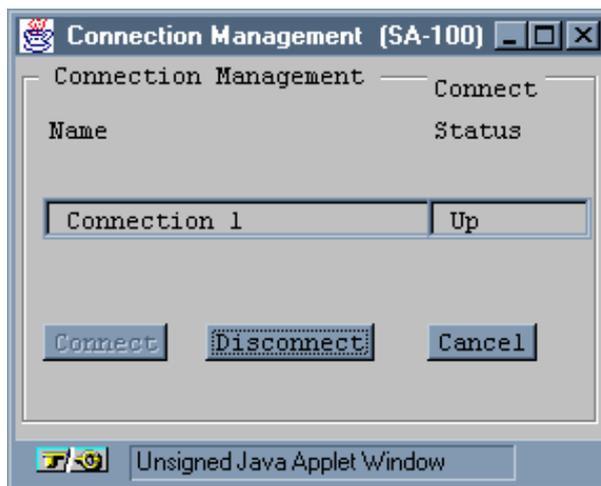

Figure 5-7. Connection Management Window
2. Choose the Connect Mgmt button. The Connection Management window appears (Figure 5-7).